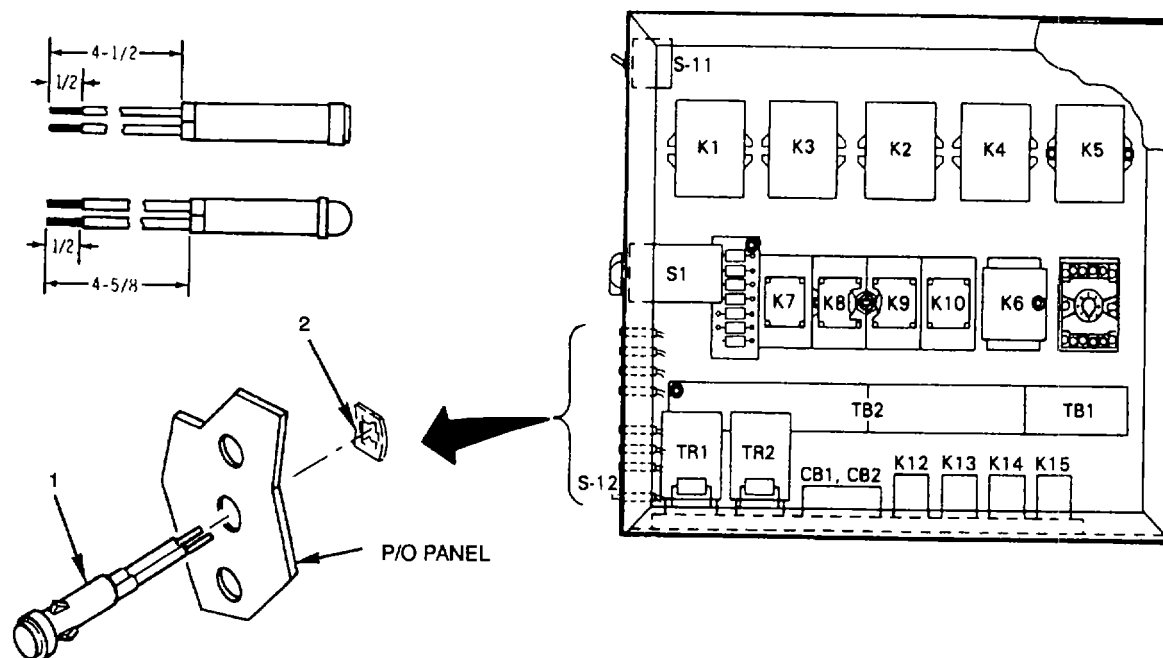

Figure 4-24. Indicator Lights (DS1-DS7)
- a. Check that light lenses are not cracked or broken. Replace light if damaged (see fig. 4-24)